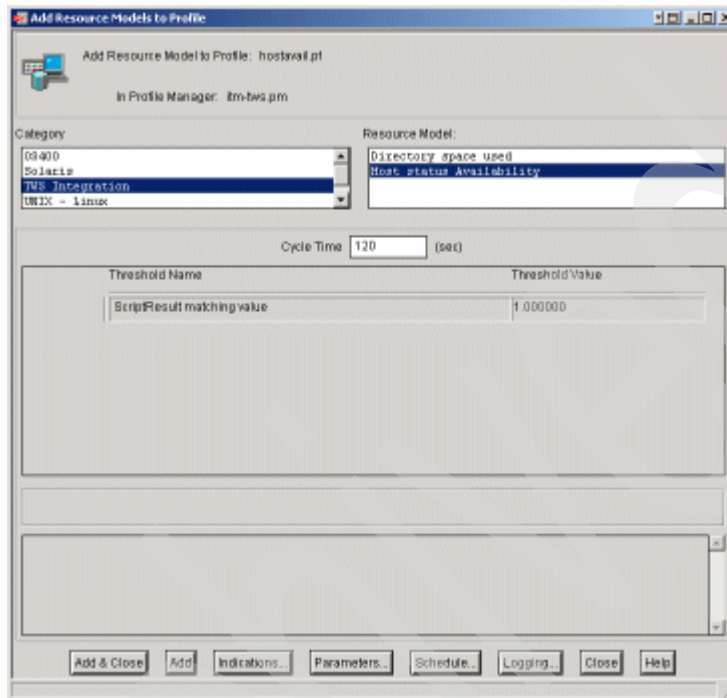

Figure 9-69 Selecting the Host status Availability resource model
2. Select **TWS Integration** in the Category list on the left-hand side of the window, and ensure that **Host status Availability** is selected in the Resource Model list on the right-hand side of the window as shown in Figure 9-69.